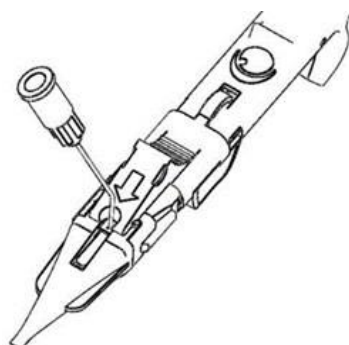

Fig. 6
- Introduce the cannula (23G or bigger) of a syringe filled with viscoelastic material into the small aperture in front of the red stopper. Inject the viscoelastic material through the aperture as shown in Fig. 6. Filling the cartridge nozzle up halfway should suffice.